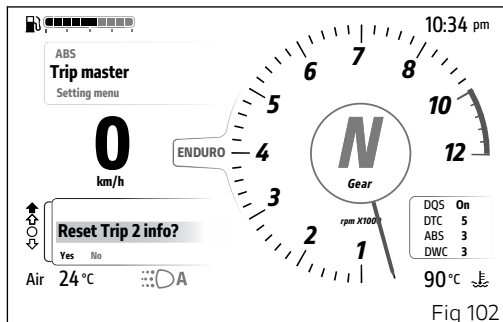

Fig 102
The Trip 2 information can be reset by pressing the ENTER button (3) when selected: "Reset Trip 2 info?" and the items "Yes" and "No" will be displayed (Fig 102).